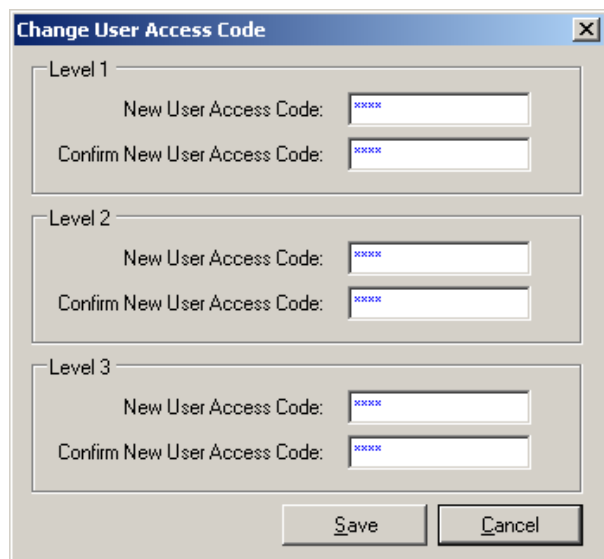

Figure 2-25 Change User Access Code Dialog Screen
2. Enter a valid Level 3 User Access Code, then select **OK**. IPScom will display the Change User Access Code dialog screen (Figure 2-25).